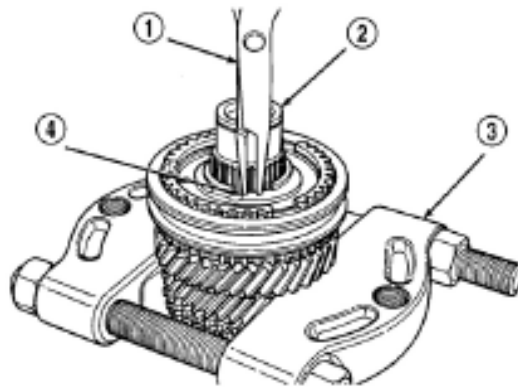

Figure 3-141 Installation of the 5th gear synchronizer clasp
(12) Assemble snap ring for the fifth gear synchronizer (Figure 3-141).